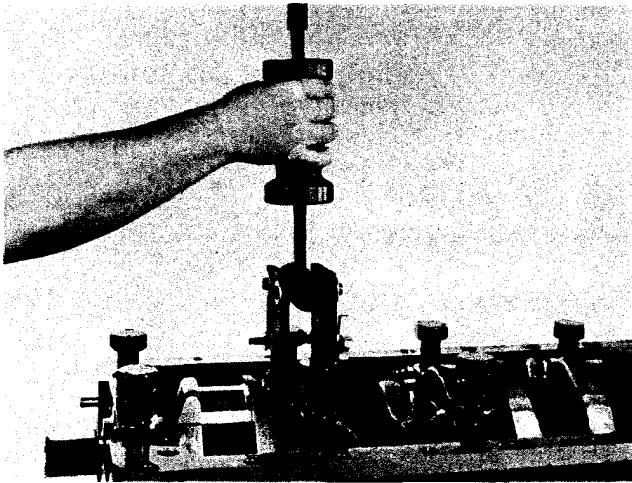

Fig. 0-34, (N100155). Removing main bearing caps
1. Using ST-1178 Main Bearing Cap Puller, loosen main bearing caps from dowels. Fig. 0-34. Lift caps and rear thrust rings from block. Make sure all bearing caps are marked so they can be installed in their original locations.